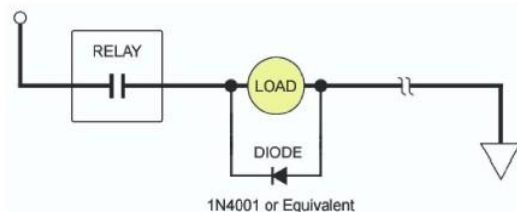

Figure 2-18. Installing a Diode across a DC Load
- b. Install a diode across each DC load, such as relays, solenoids, and PLC inputs, as shown in Figure 2-18, below.